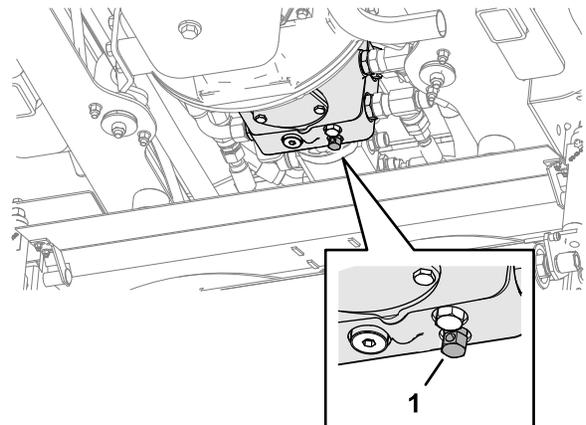

Figure 43
1. Release the hydraulic service braking system by turning the bypass valve, located under the transmission pump, counterclockwise, a maximum of 3 turns (**Figure 43**).